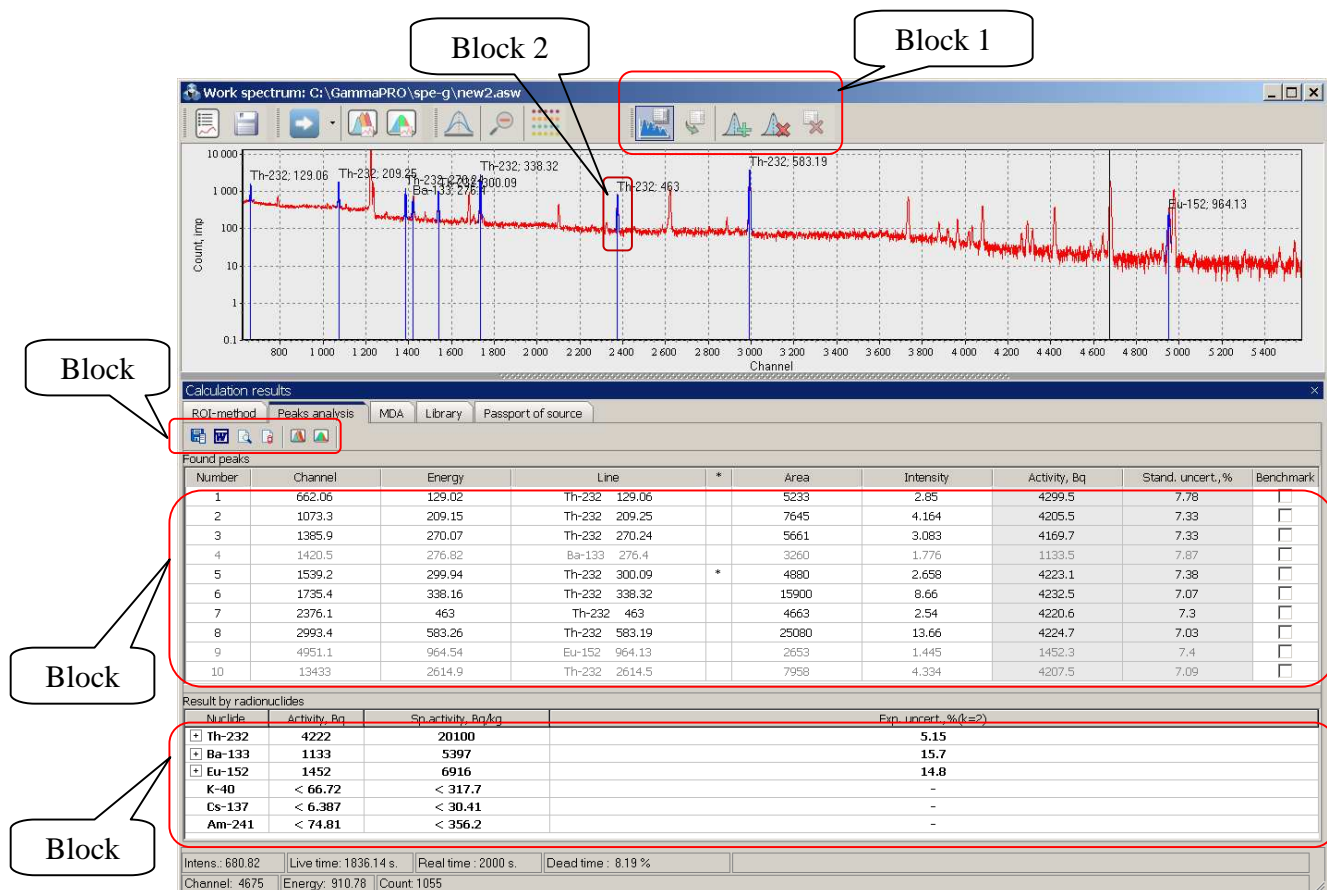

Figure 38. Spectrum window view after peak search
6.2.8 On the toolbar of the spectrum window (Fig.38, block 1), press  (**New search peak and calculation**). If the spectrum has correct calibration by energy, FWHM and shape of the spectrum, the **Peak analysis** tab of the measurement results panel will display information on any discovered peaks (Fig.38, block 3). Also, found highlighted peaks with titles will appear on the spectrum graph (see Fig.38, block 2).
The toolbar above the table of **Found Peaks** contains additional buttons   (see Fig.38, block 5). These buttons are intended for sending of data about found peaks to peak FWHM and shape calibration. It should be noted that even though the information about the FWHM and shape value is not available in the **Found Peaks** table, this information is stored in the programme and may be sent to dialogue windows generating FWHM and shape calibrations.